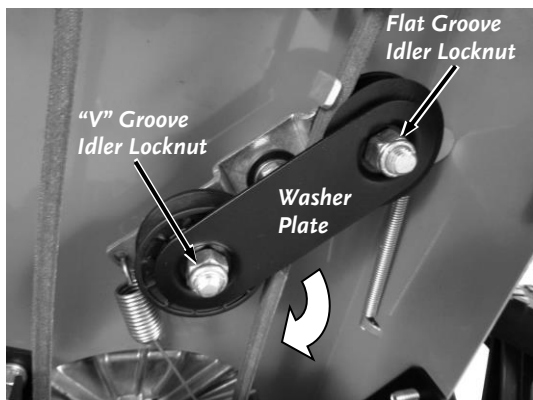

Figure 32
5. Remove the Locknut that secures the Washer Plate to the flat groove Idler Pulley using a 9/16" Wrench (**Figure 32**). Loosen the other Locknut to the V groove Idler Pulley using a 9/16" Wrench just enough so the Washer Plate can be rotated out of the way.
13. Rotate the Washer Plate onto the Flat Groove Idler Stud and install the Locknut using a 9/16" Wrench (**Figure 32**). Tighten the "V" Groove Idler Locknut using a 9/16" Wrench.